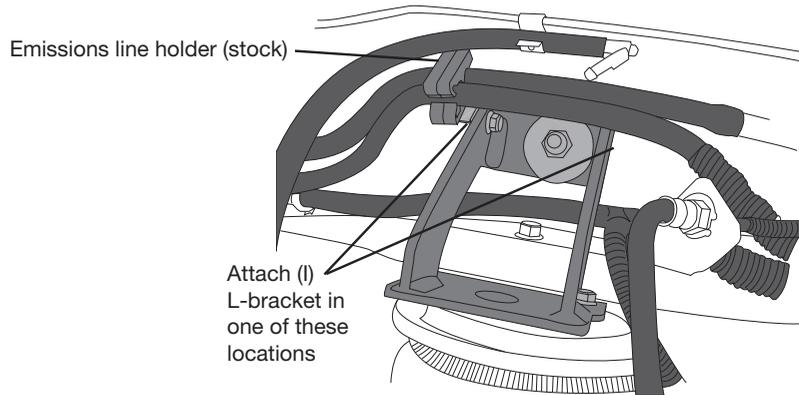

fig. 20
10. Insert the line holder post into the L-bracket (I) attached to the front or back leg of the upper left brace (C) (Fig. 20). It may be necessary to move the line holder post forward or back on the lines to line up correctly with the L-bracket hole. Reattach any line holders removed forward or behind the axle, if possible, that were removed to aid in positioning the upper brace.